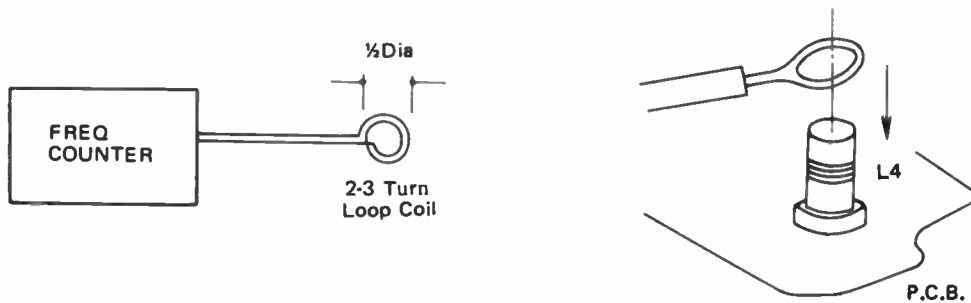

Fig. 5
- STEP-2 Couple FREQUENCY COUNTER thru pick-up coil to OSC COIL T2 of FRONT END See Fig. 5